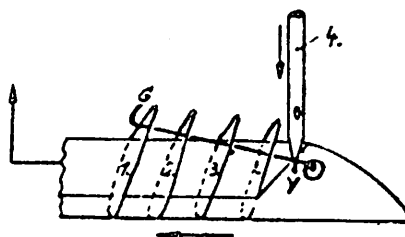

Fig. 39
- b) For the radial adjustment of the thread pick-up cam first turn the balance wheel in the forward direction until the point of the descending fourth needle reaches the plane "Y" of the sewing hook eye (fig. 39 = illustration of the rear of the hook). The thread pick-up cam must now shed the looper thread "G" at the peak of its release edge "A" (fig. 40). The radial adjustment is fixed with the screws "S", taking care that the looper thread can slide freely sideways between the cam "FE" and the pick-up plate "PL" or the presser spring.